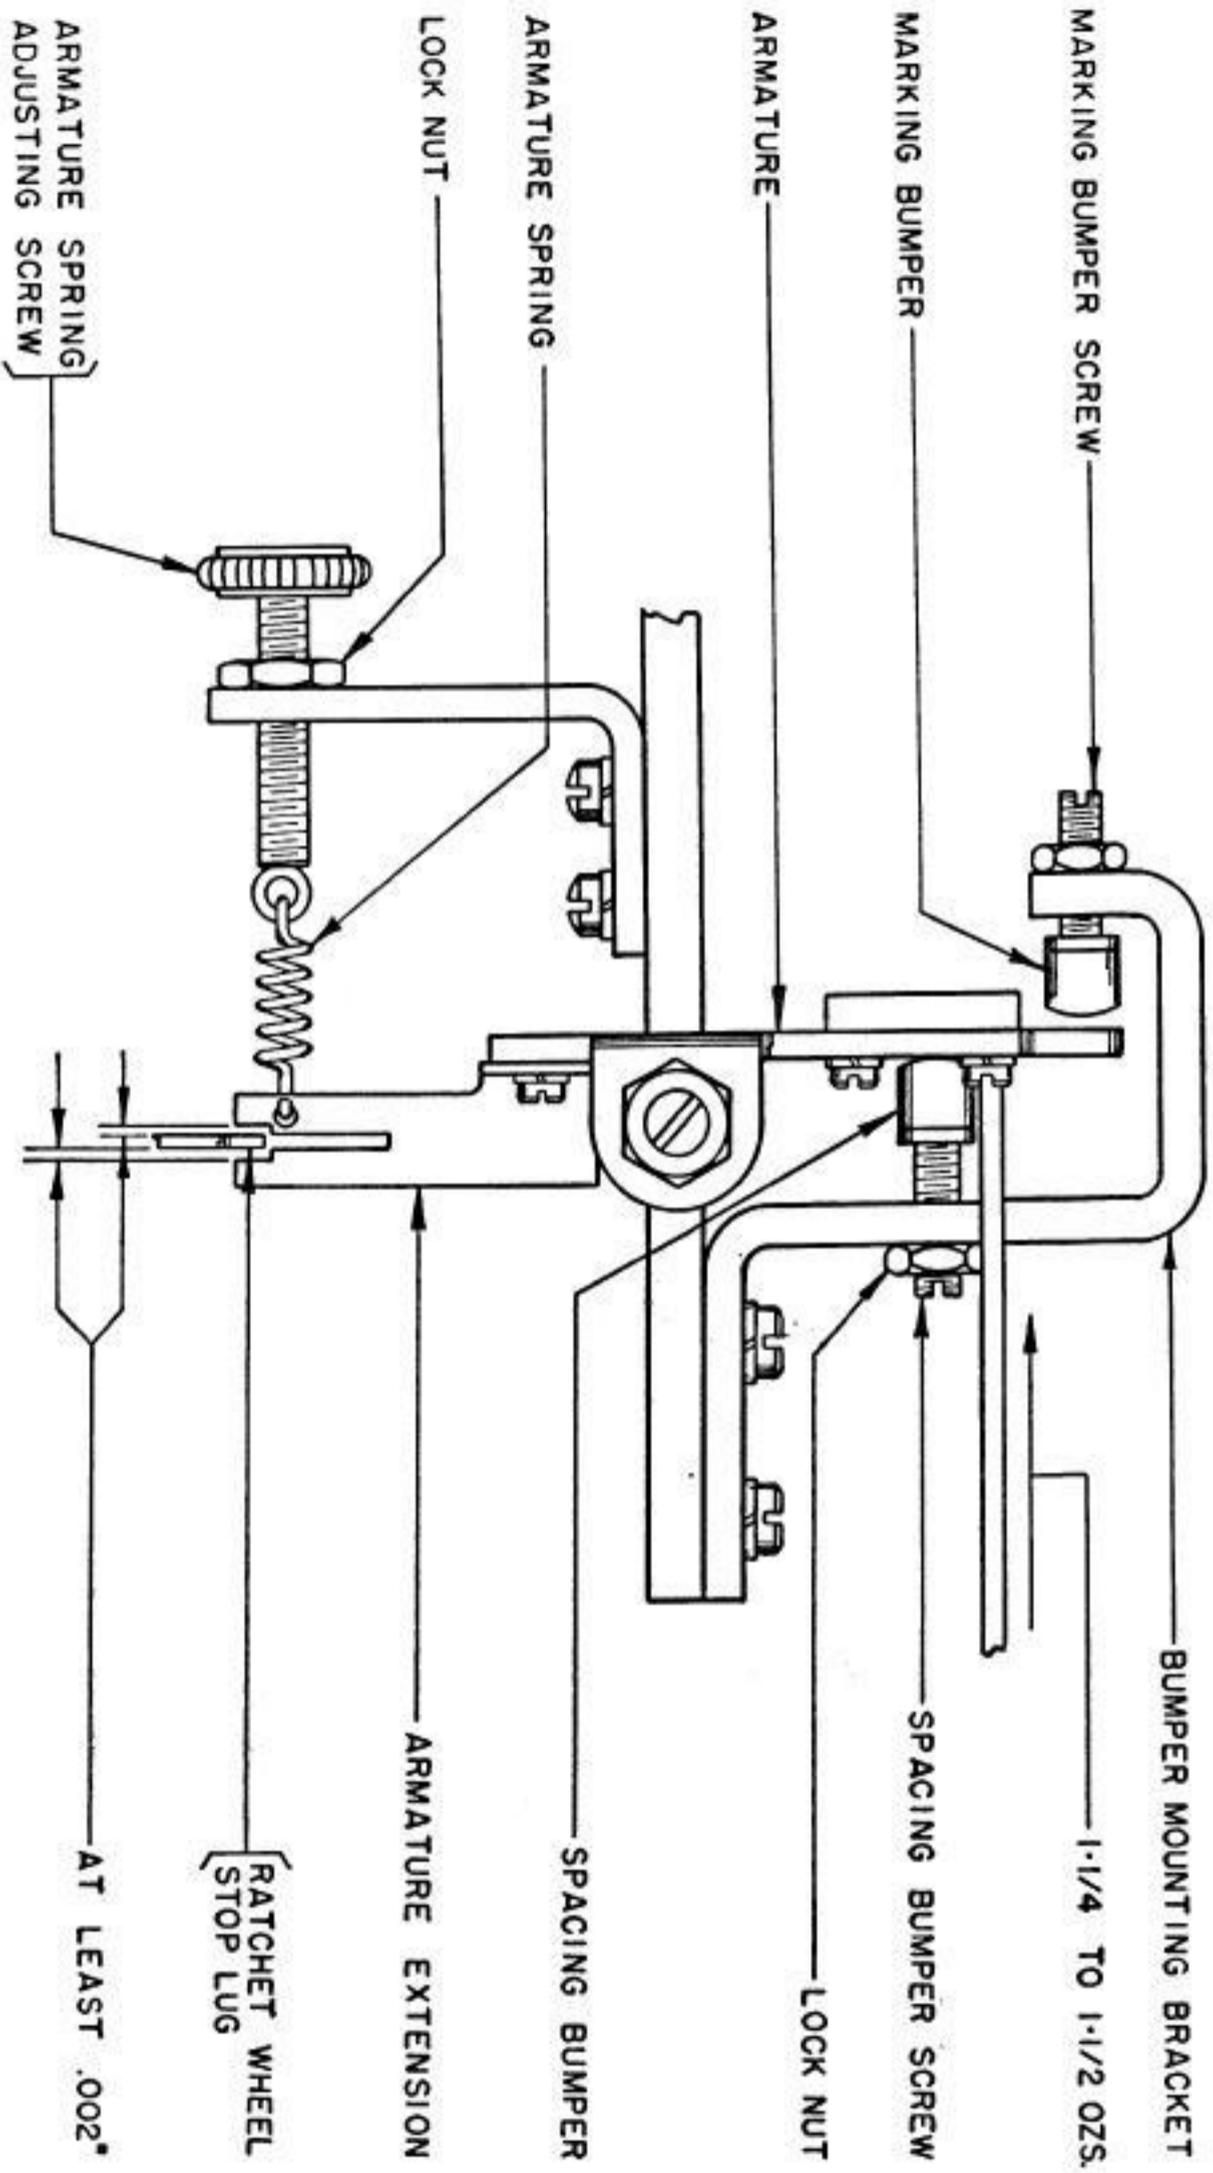
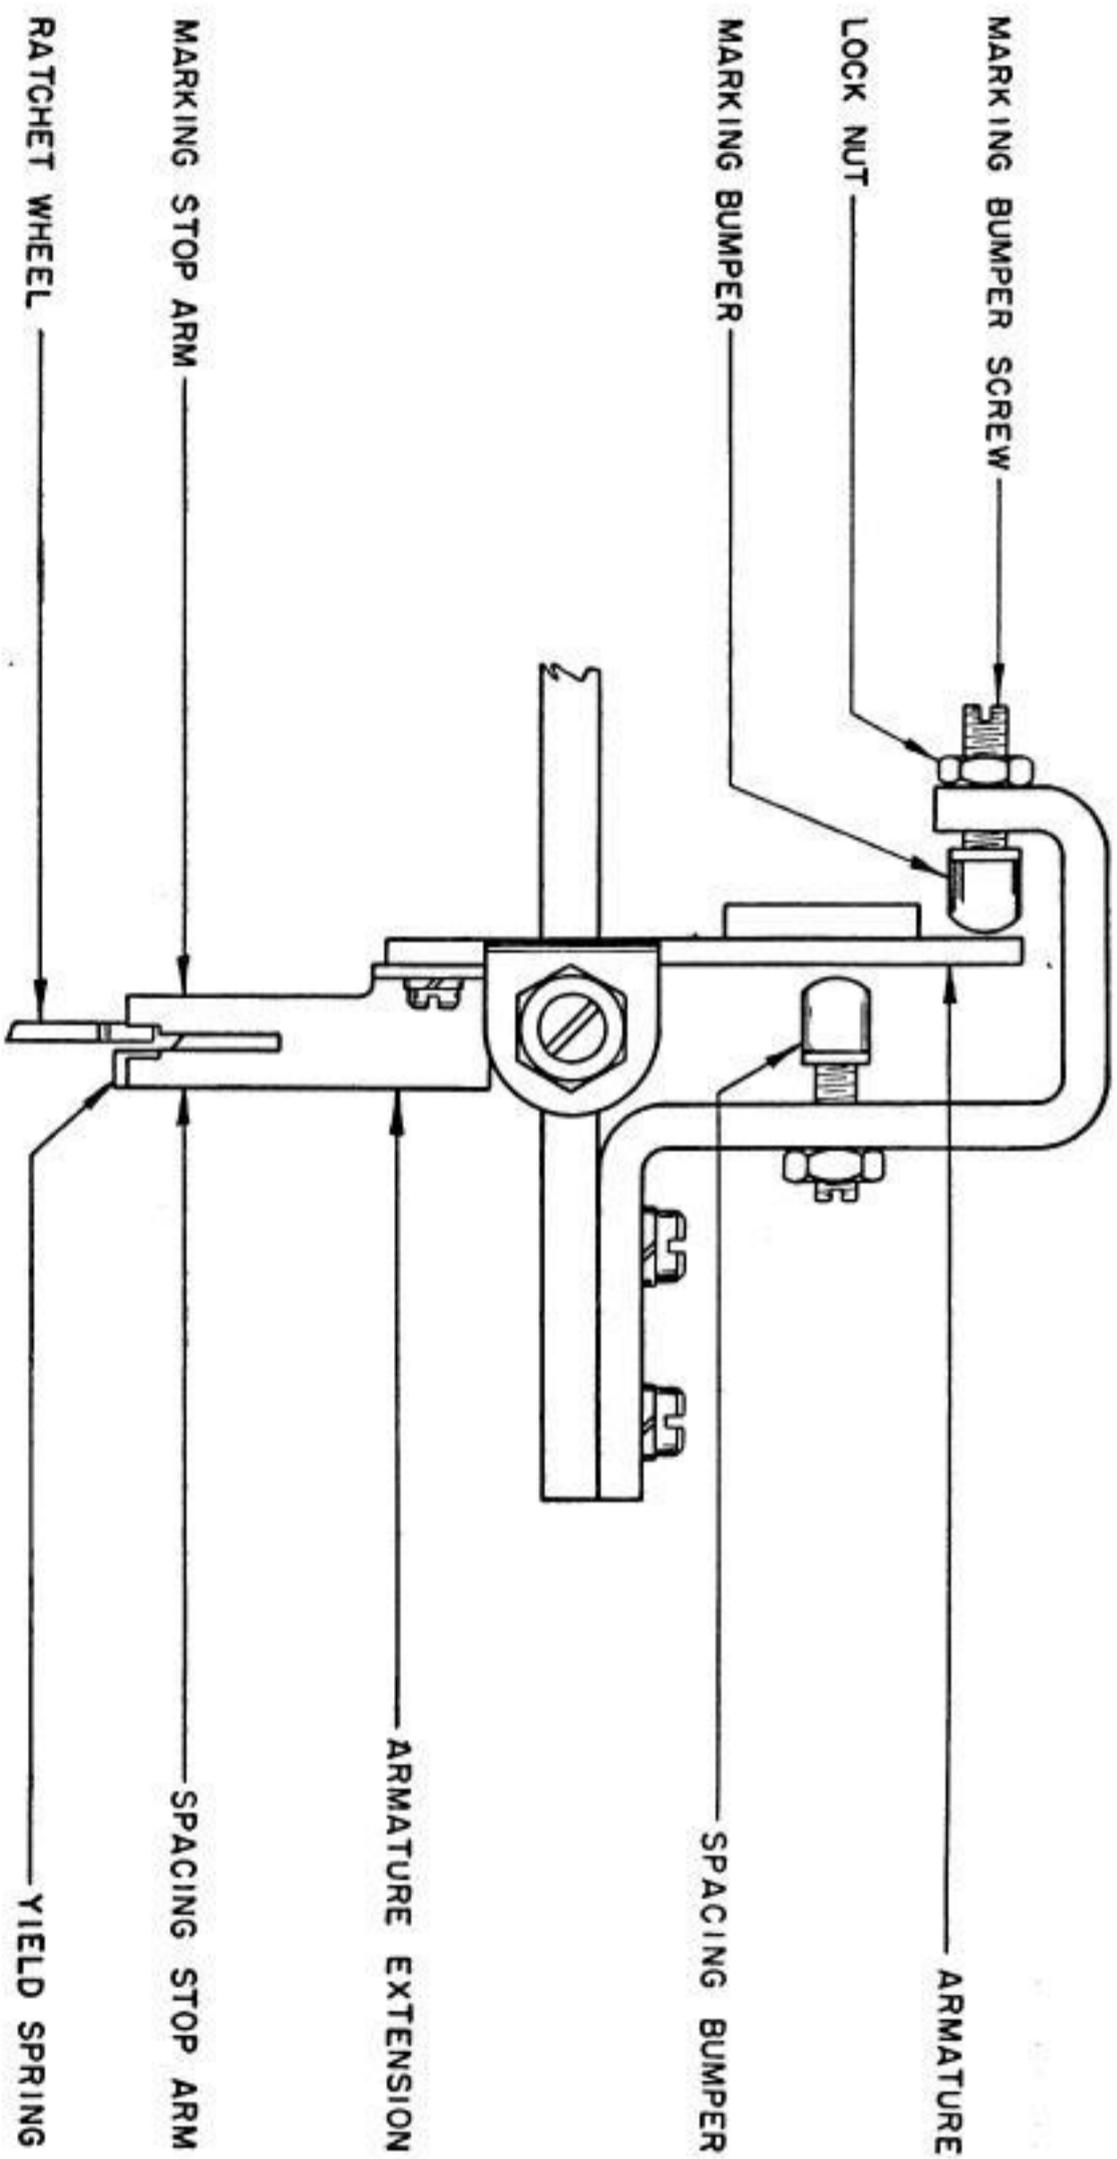
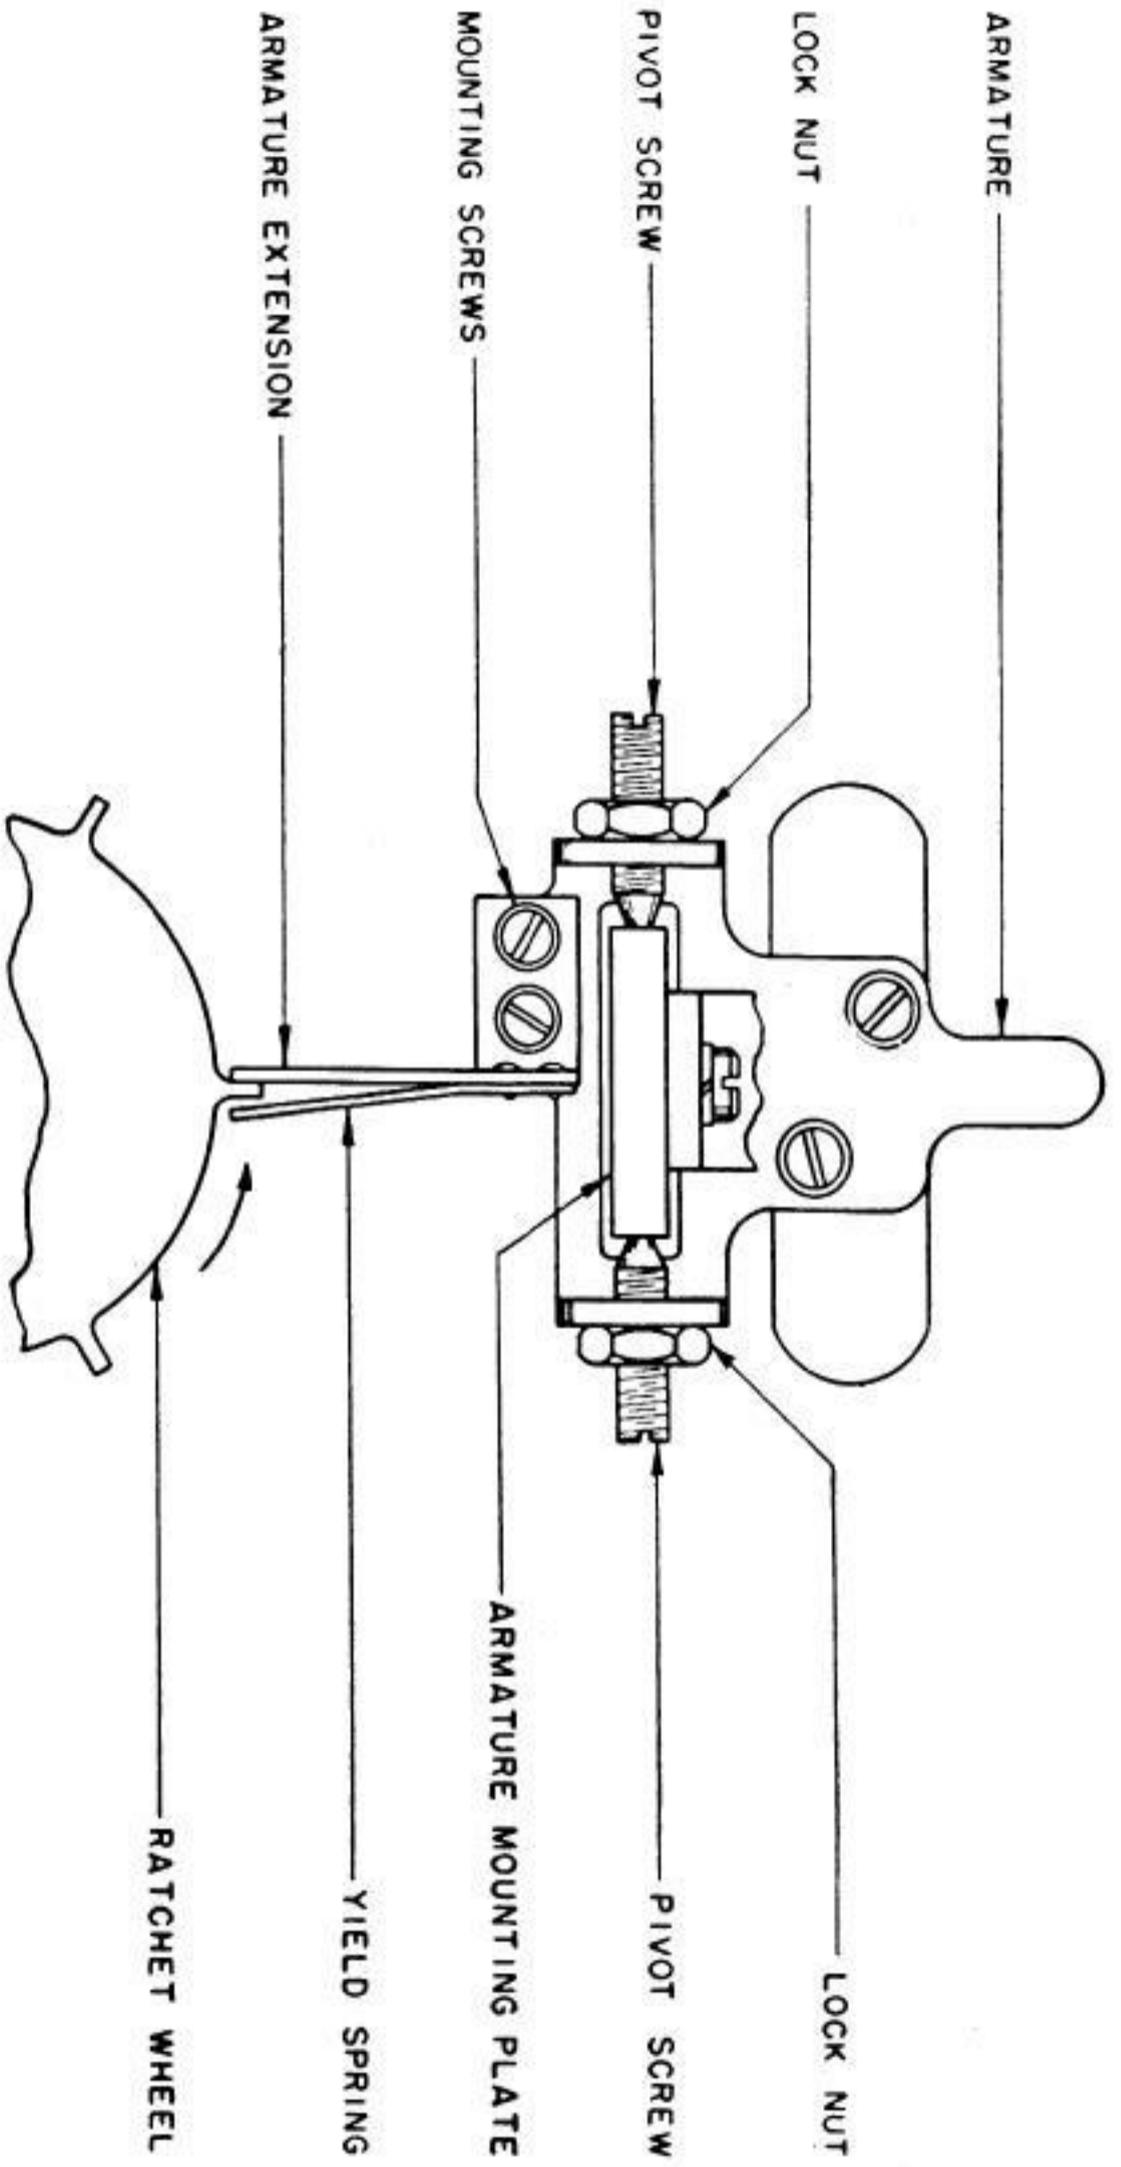
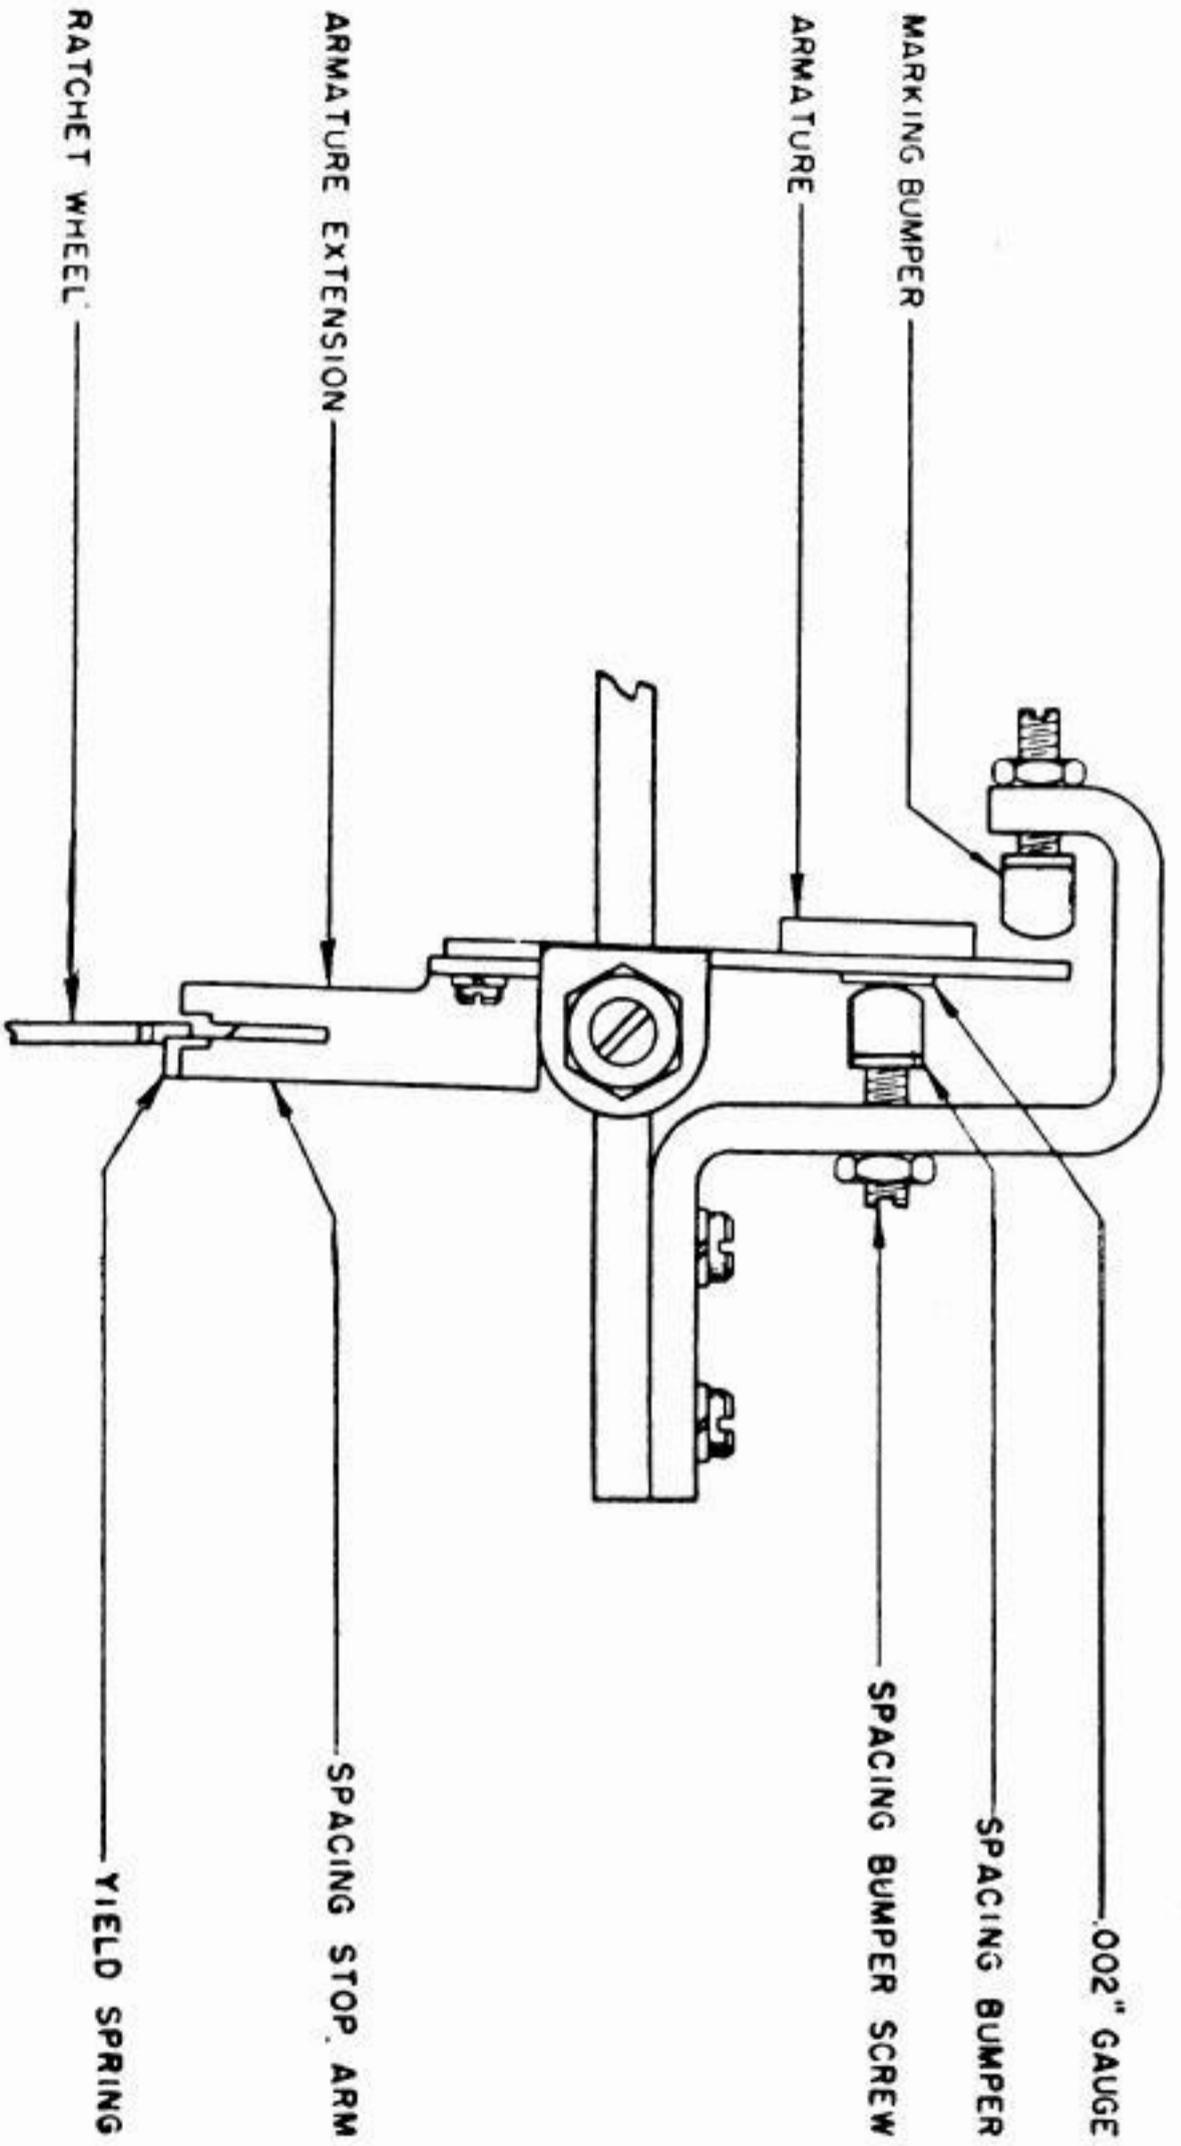

Fig. 5
Fig. 6
Fig. 7
Fig. 8
3.02 The counting operation is controlled by the interaction of the escapement (ratchet) wheel, shown in Fig. 4, with the extension of the armature of the selector magnet. This extension is bifurcated (See Fig. 6) to form a marking stop-arm and a spacing stop-arm. The ratchet wheel has six stop-lugs, which are held or released by the stop-arms. The speed of rotation of the wheel is such that each lug corresponds to a single character and a complete revolution of the wheel, which registers one on the counter, to a word. **Figs. 4, 6**
3.03 Under the normal closed line condition (marking), the ratchet wheel is stopped by the engagement of one of its lugs with the marking stop-arm of the armature extension as shown in Fig. 6. The start element (spacing) of a character releases the armature, which moves to its spacing position. The stop-lug passes through the slot in the armature extension (Fig. 5) and the wheel turns freely, regardless of whether the signal elements are marks or spaces, until the next stop-lug approaches the armature extension. At that time the magnet is energized by the stop element of the signal and the marking stop-arm blocks the lug and stops the wheel. (Fig. 6) When the next start element is received, the process is repeated, the mechanism moving $1/6$ of a word count for each stop. **Figs. 5, 6**
3.04 The spacing stop-arm of the armature extension is not normally used. This arm has a yield-spring stop, bowed away from the arm as shown in Fig. 7. If a long break signal is sent or if the line goes open, so that the armature remains in the spacing position, a stop-lug on the wheel comes up to the spring, pushes it against the solid portion of the spacing stop-arm and stops rotation of the wheel. (Fig. 8) The spring closes the spacing side of the slot in the armature extension so that the stop-lug cannot pass through as it did in normal operation. **Figs. 7, 8**
3.05 When line current is restored, the armature is drawn to the magnet and the spacing stop-arm, with spring, is moved out of the way of the stop-lug. The wheel does not turn, however, because the stop-lug is immediately blocked by the marking stop-arm, where it rests in readiness for the next start element. (Fig. 6) In the meantime, the bowed spring moves back out of the way so that it will not interfere with the next movement of the armature to spacing. (Fig. 7) On the next start element, the slot is free and the wheel can turn. **Figs. 6, 7**
(a) To adjust, position the spacing bumper screw with its locknut loosened. **Fig. 5**
(a) To adjust, position the armature-spring adjusting-screw with its locknut loosened. Recheck 4.08. **Fig. 5**
4.10 **Marking-Bumper-Screw:** — Preliminary — With the motor running and the armature operated slowly by hand, the ratchet wheel should escape from the yield spring of the spacing stop-arm of the armature extension just before the armature strikes the marking bumper. **Fig. 6**
(a) To adjust, position the armature by means of its pivot screws to meet the first requirement and position the armature extension by means of its oversize mounting-holes to meet the second requirement. If necessary, reposition the entire magnet assembly by means of the oversize holes in its base plate. **Fig. 7**
- (a) To adjust, refine the spacing bumper screw position and use a .003" gauge in place of a .002" gauge between the armature and the spacing bumper. **Fig. 8**
- (a) To adjust, refine the marking bumper-screw position. Recheck the magnet bracket position. **Figs. 6 & 9**
- (a) To adjust, refine the armature spring tension. **Fig. 5**